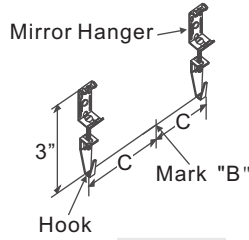

Figure B2
E. (Refer Figure B2) To determine where the Mirror Hangers (A) will be fastened to the wall, measure up from Measurement C 3". Do this in two locations as illustrated and mark the wall.